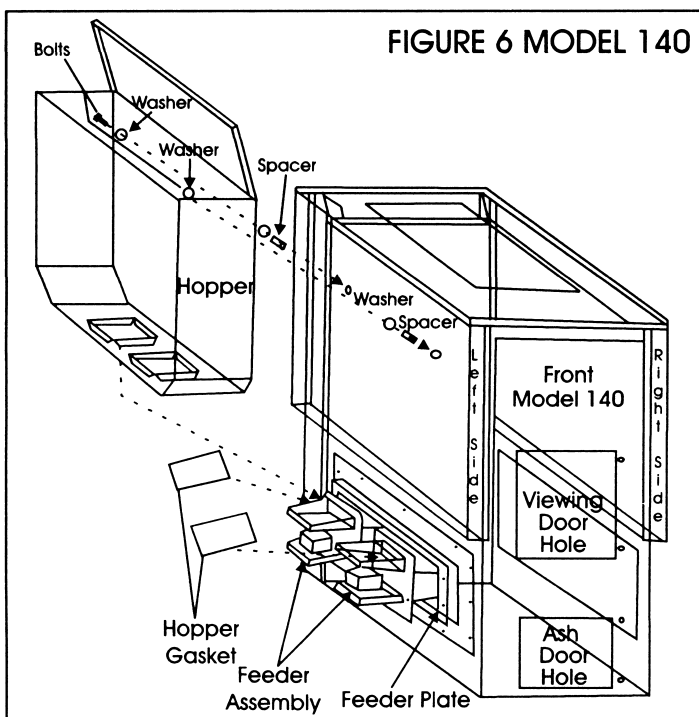
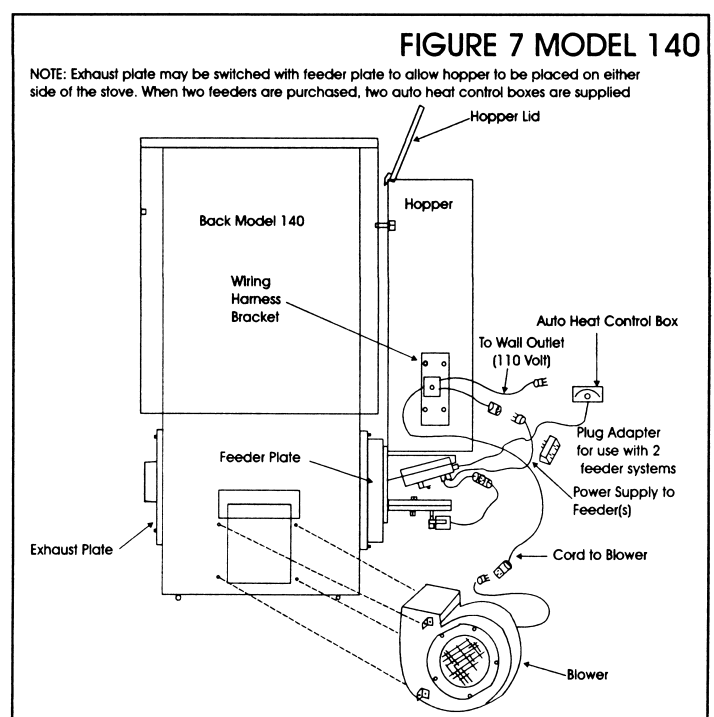

FIGURE 6 MODEL 140
FIGURE 7 MODEL 140
STEP 1 Remove all parts from inside the stove body and the parts box. Remove the 8 bolts from the frame of the feeder plates (4 from each plate). Align Feeder Assembly holes with feeder plate holes. Insert bolts and tighten (See Fig. 6). If you purchased a Model 140 with one feeder, mount the feeder plate cover over one opening.
STEP 4 Place hopper over openings in the feeder assemblies, the hinged lid toward the stove body (See Fig. 7). Place a bolt with a washer through the hole from inside the hopper, add a washer and a spacer on bolt, thread into stove body. Use same procedure for second bolt. Push down on hopper to seat firmly on gasket. Tighten the bolts. The hopper tabs should be **inside** the feeder housing (Fig. 6). If you have purchased a one feeder unit, use the hopper plate cover to seal the open hopper opening.
STEP 6 Refer to drawing for approximate location of wiring harness bracket. Hold bracket in position, attach with self-taping screws provided (See Fig. 7) Plug blower motor into the junction box cord (long female cord). Plug feeder(s) into short female cord (use triple plug adapter if stove is ordered with 2 feeders). Plug into a 110 volt receptacle and test for motor operation (See Fig. 8). (If you purchased Model 140 with optional hot air fan limit switch, instructions are contained in box). Your Model 140 can be used as a hot air system. Contact your Alaska dealer for details. Cold air return may be accomplished by returning air into immediate area of distribution blower. A box could be constructed over the blower and cold air returns. Connect pipe to ensure fit. Place 3 screws at each joint. We also recommend a bed of high temperature silicone at each joint (optional), once your stove is positioned properly attach pipe at top of stove.